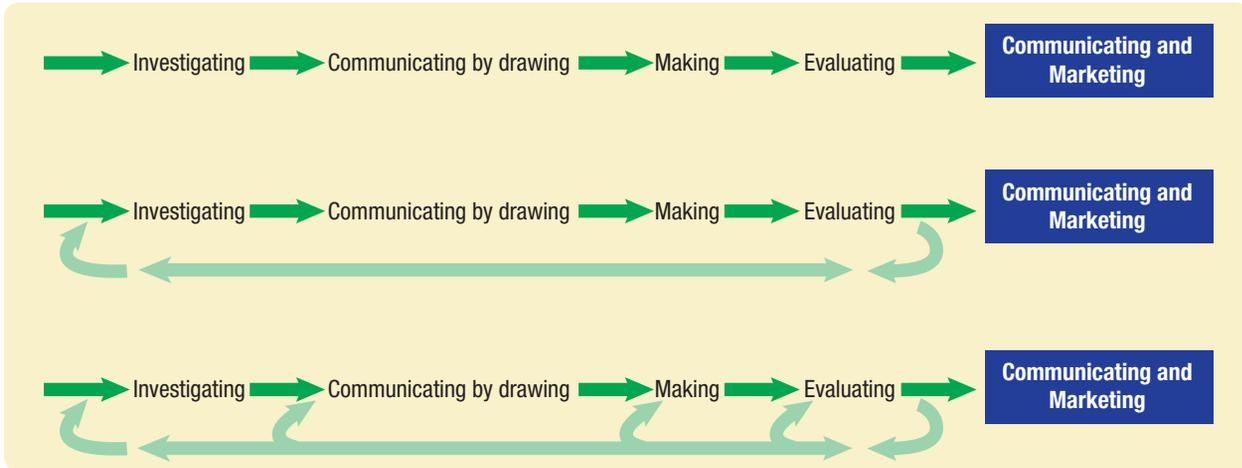

Figure 1.3 Different ways of carrying out the design process
- 1 Copy into your exercise book the three ways of carrying out the design process shown in Figure 1.3.